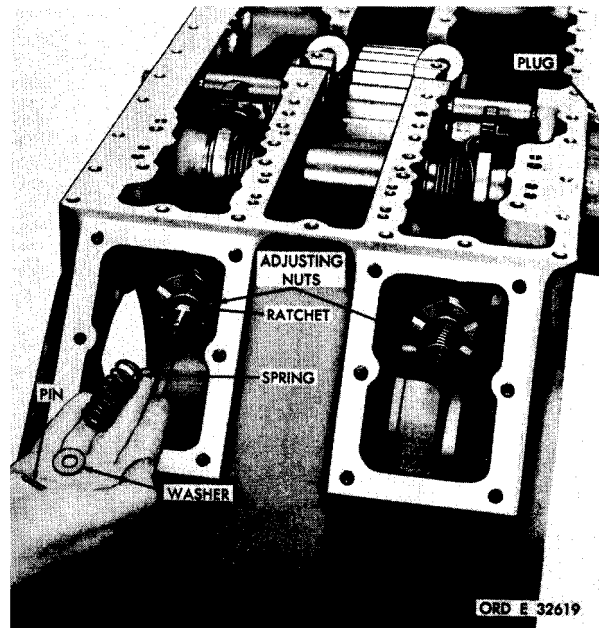

Figure 200. Right and left-brake adjusting nuts and component parts
xc2 aj. Install the right-follower link shaft plug (fig. 200).
ak. Tighten brake adjusting nuts until they are finger tight (fig. 200). Do not tighten the nuts enough to move the rotating cam rings.
al. Install ratchets onto brake links (fig. 200).
a.m. Install springs and washers and secure with pins (fig. 200). Bend the ends of the pins to retain them.